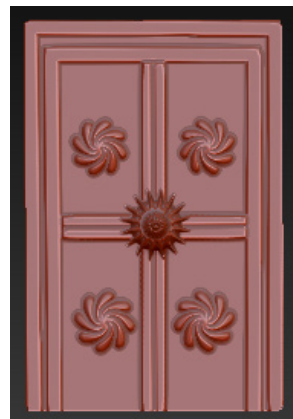

Figure 3-107 Alpha 19 applied to the door panels
9. Press and hold the left mouse button and drag the cursor to create a pattern on any panel of the *door*; the pattern is replicated on the remaining panels, refer to Figure 3-107.